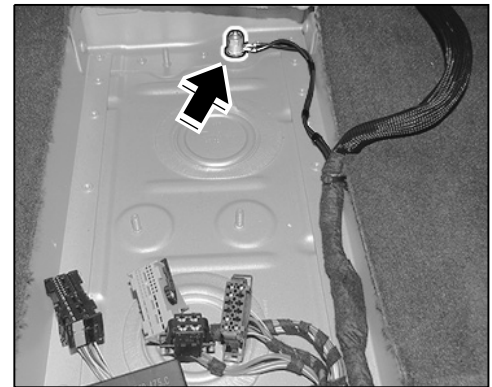

Figure 15
- 2.5 Connect cable ring eyelet (BN ground strap) to ground point MB 6 $\Rightarrow$ *Figure 15 -arrow-*. **Tightening torque 9 Nm (6.5ftlb.)**